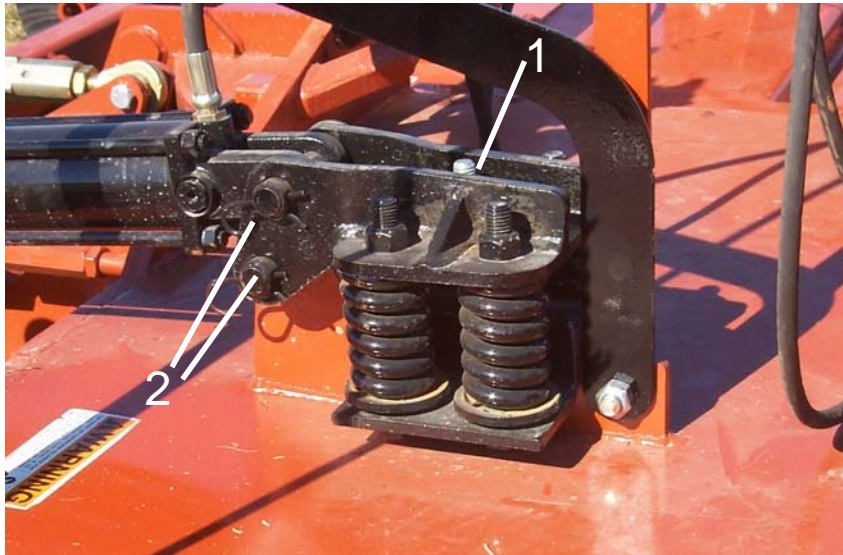

FIGURE 10. Spring Assembly Attachment
Attach the Spring Assembly (1) to the Center Section Lug with pin (2) and cotter pin. **FIGURE 10.**